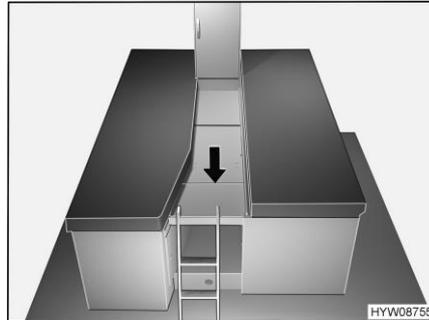

Fig. 74 Preparing the bed widening
- Fold up the bed widening and place it between the single beds, as shown in Fig. 74.